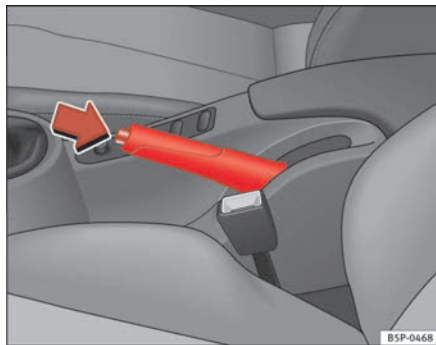

Fig. 127 Handbrake between the front seats
- Pull the handbrake lever up firmly ⇒ page 165, fig. 127.
- Pull the lever up slightly and press the release knob in the direction of the arrow ⇒ page 165, fig. 127 and guide the handbrake lever down fully ⇒ .